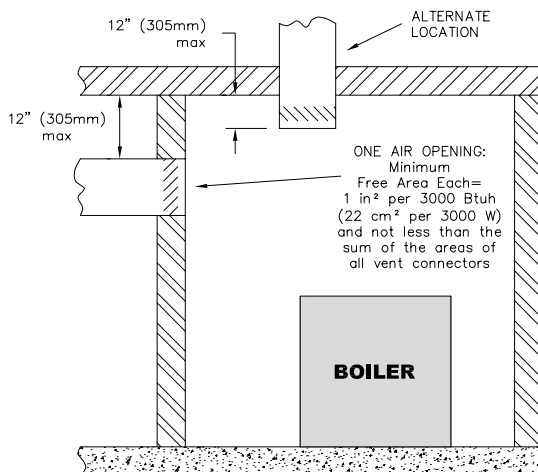

Figure 1.7: Air Openings – All Air from Outdoors through One Opening
- b. *One Permanent Opening Method:* Provide one permanent opening beginning within 12 inches (305 mm) of the top of the space. The opening shall communicate directly with the outdoors, communicate through a vertical or horizontal duct, or communicate with a space that freely communicates with the outdoors. The opening shall have a minimum free area of 1 in² per 3000 Btu/hr of total rated input for all appliances in the space and not less than the sum of the cross-sectional areas of all vent connectors in the space. The gas-fired equipment shall have clearances of at least 1 inch (25 mm) from the sides and back and 6 inches (150 mm) from the front of the appliance. See Figure 1.7 for this arrangement.